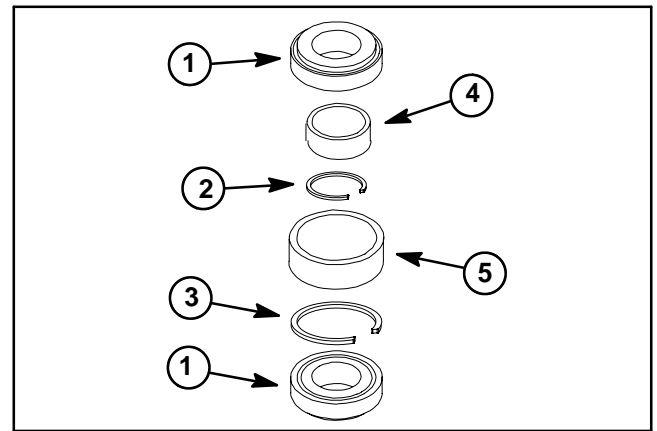

Figure 17
4. Allow the bearing cones, inner bearing spacer and spacer ring to drop out of the spindle housing (Fig. 17).
NOTE: A replacement spindle bearing set contains two (2) bearings, a spacer ring and a large snap ring (items 1, 2 and 3 in Fig. 17). These parts cannot be purchased separately. Also, do not mix bearing set components from one deck spindle to another.
NOTE: A replacement bearing spacer set includes the inner spacer and outer spacer (items 4 and 5 in Fig. 17). Do not mix bearing spacers from one deck spindle to another.
IMPORTANT: If bearings are being replaced, make sure to use the spacer ring that is included with new bearing set (Fig. 17).